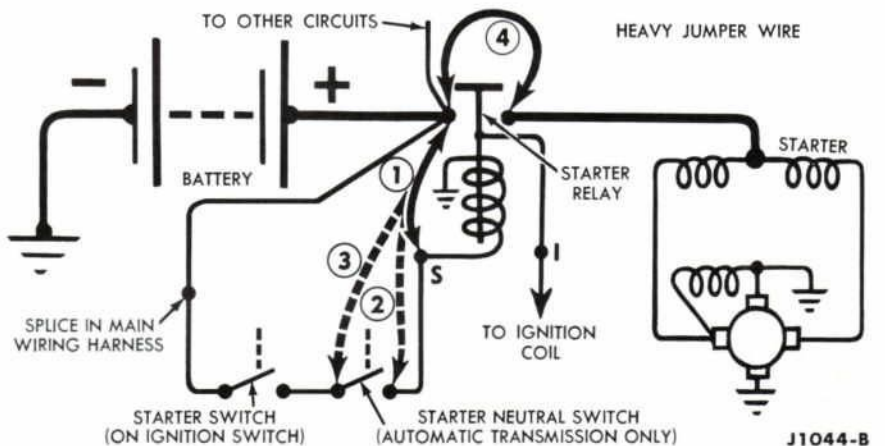

FIG. 14—Starting Circuit Test
2. With a fully charged battery, operate the starter switch to crank the engine. If the engine does not crank and the relay does not click, connect a jumper lead from the battery terminal of the relay to the starter switch terminal of the relay (Fig. 14, connection 1). If the engine does not crank, the starter relay is probably defective.